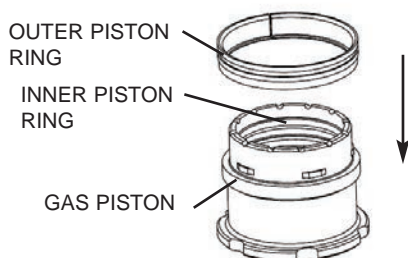

Figure 18A
The gas piston assembly in your model 940™ shotgun may be fitted with a single outer piston ring, or with two outer piston rings secured with a retaining ring. For a gas piston assembly fitted with a single outer piston ring as shown in Figure 18A, follow the instructions below for gas piston re-assembly.
1. With the tapered end of the outer piston ring facing upward, press one side of the outer piston ring down onto the gas piston, then press down around the rim to secure the outer piston ring to the gas piston (Figure 18A).